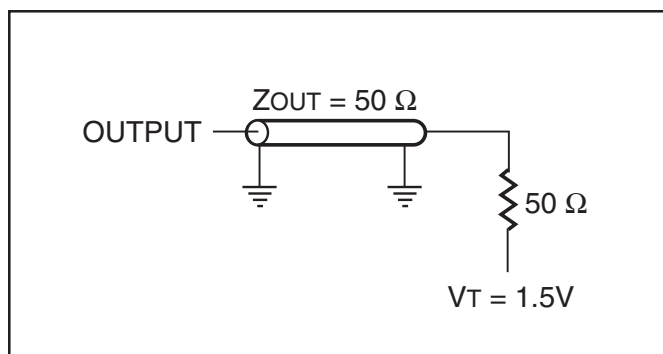

Figure 1
1. Test conditions assume signal transition times of 3 ns or less, timing reference levels of 1.5V, input pulse levels of 0 to 3.0V loading specified in Figure 1.
Output Load	See Figures 1 and 2
1. Test conditions assume signal transition times of 3ns or less, timing reference levels of 1.5V, input pulse levels of 0 to 3.0V and output loading specified in Figure 1.